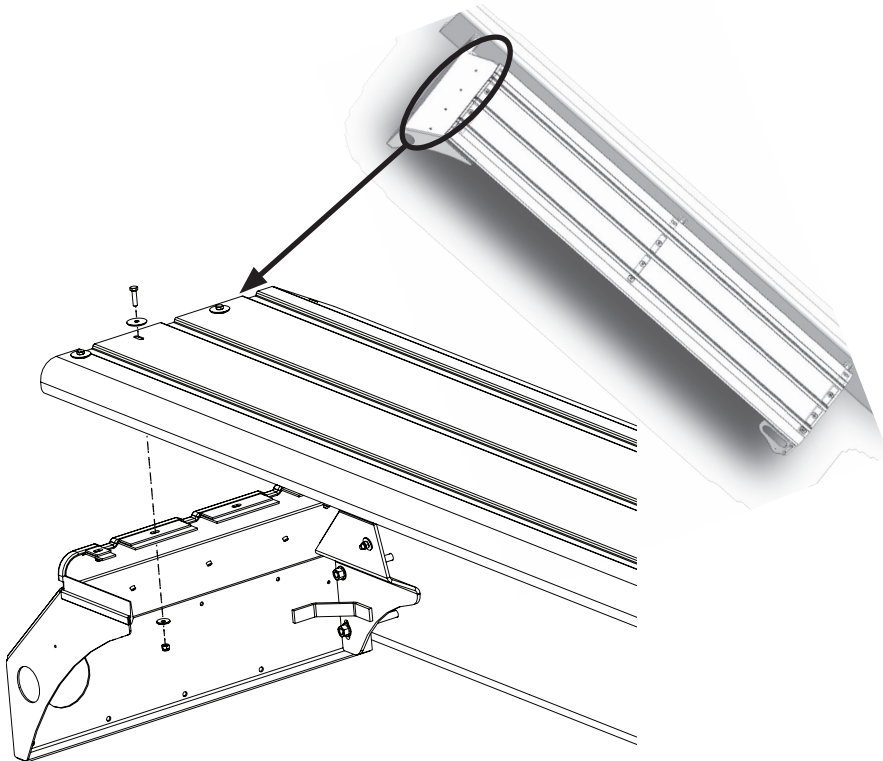

Figure 1
- a. Removing and retaining the sets of hardware in Figure 1. There are four pieces of hardware per set (bolt, washers, nut), and 15 sets total per fender. **NOTE:** Be aware of any rubber cushions between the fender "skin" and the mounting bracket that may have come loose or stuck to the skin. Do not lose any cushions; reinstall them if they have come loose.
- Reinstalling the sets of hardware as shown in Figure 1.